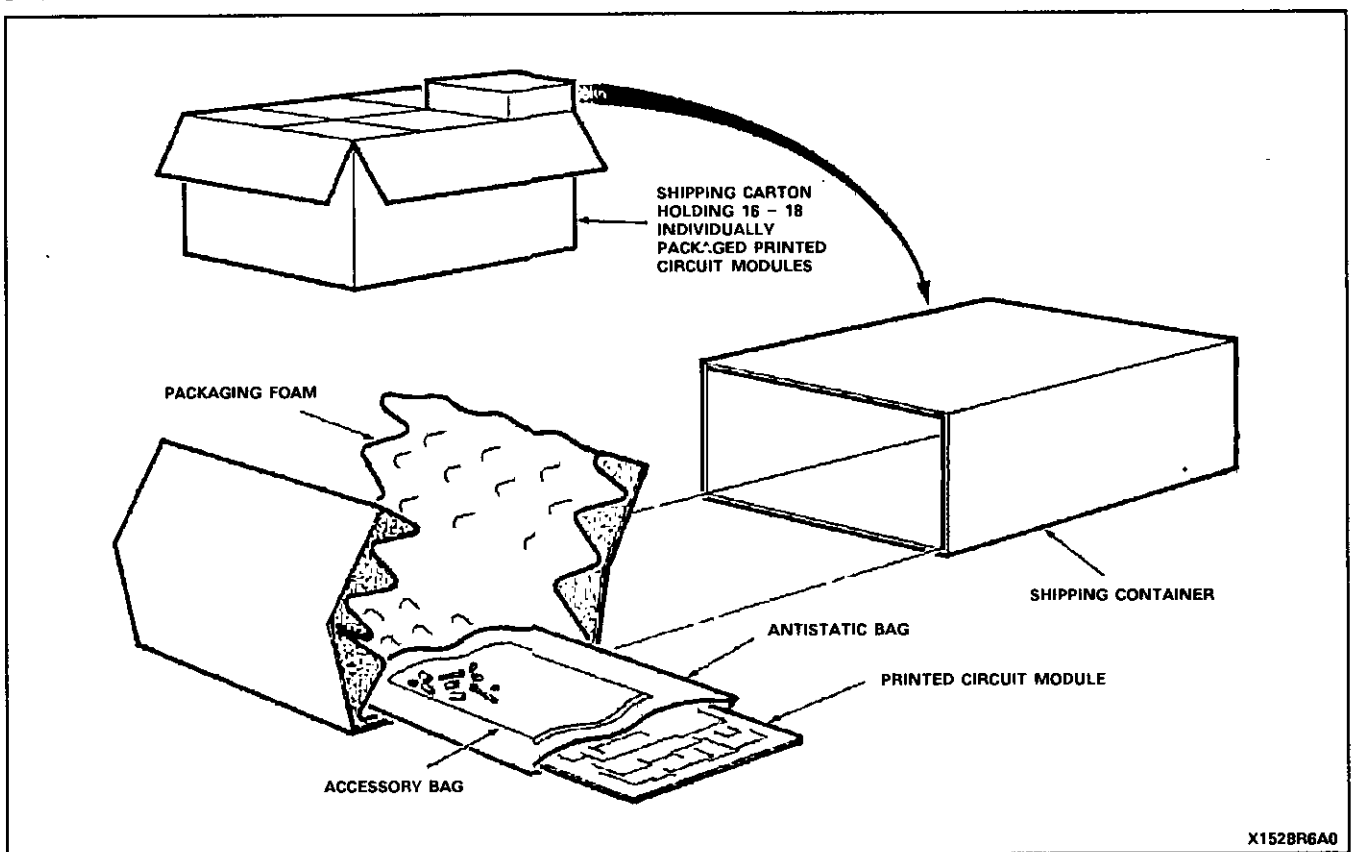

Figure 2-3 Printed Circuit Module Packaging
2.01 The SX-20 equipment cabinet is shipped in a single carton (Figure 2-1) containing only the equipment cabinet. If a large number of systems are to be shipped to one location, 10 SX-20 shipping cartons are packaged on a single shipping pallet. The SX-20 console is also shipped in a single carton (refer to Figure 2-2), and the circuit cards are packaged as shown in Figure 2-3.